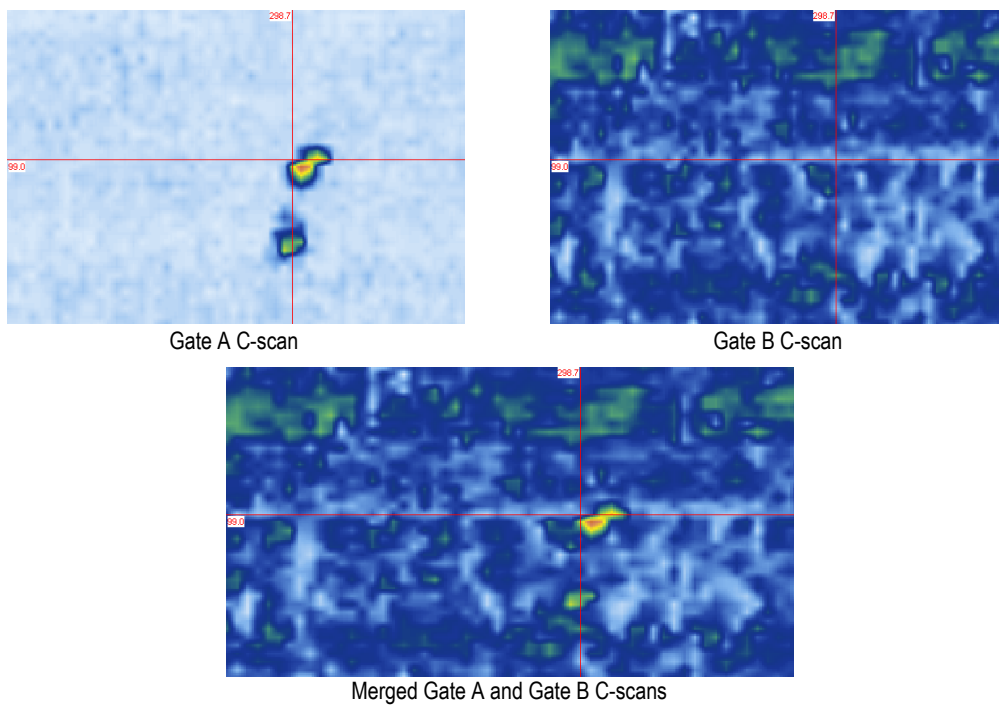

Figure 7-25 Gate A and Gate B C-scan merging example
- Merge C-scan images from different gates (even if you modified the gate position and length). Can be used for multi-layers part with bonding (see Figure 7-25 on page 365).